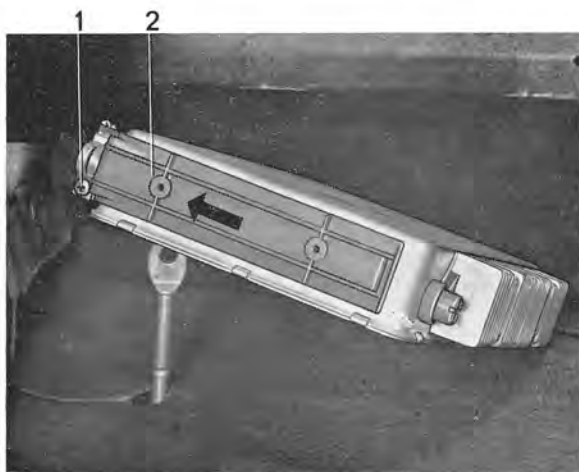

Fig. 2-134. Removing plastic cover
4. Unscrew the screw for the cap holding the cable harness to the control unit, see Fig. 2-134.